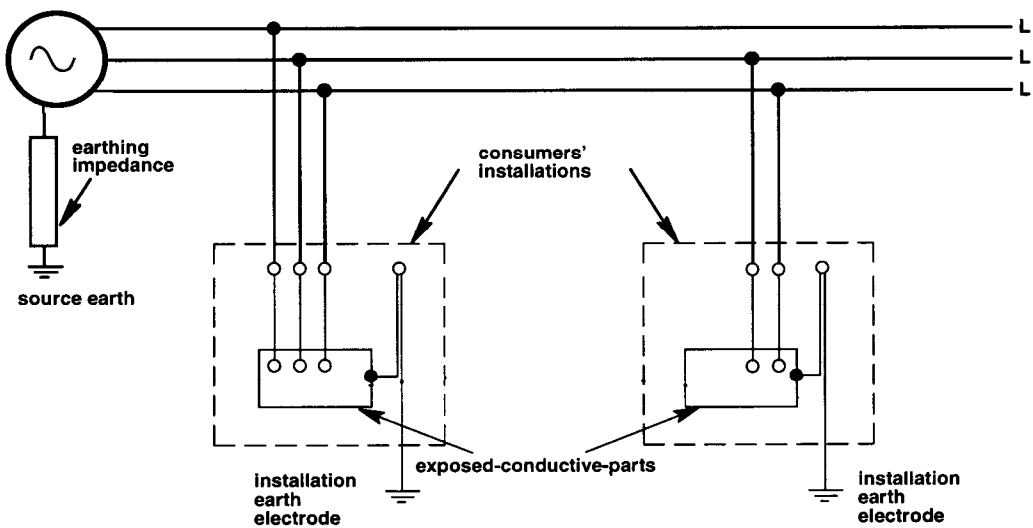

Fig A-5 – IT system
**IT system:** One pole of the supply system is connected through an impedance to a buried electrode. Local buried electrodes are used to 'earth' exposed conductive parts of a load installation. (Figure A-5)